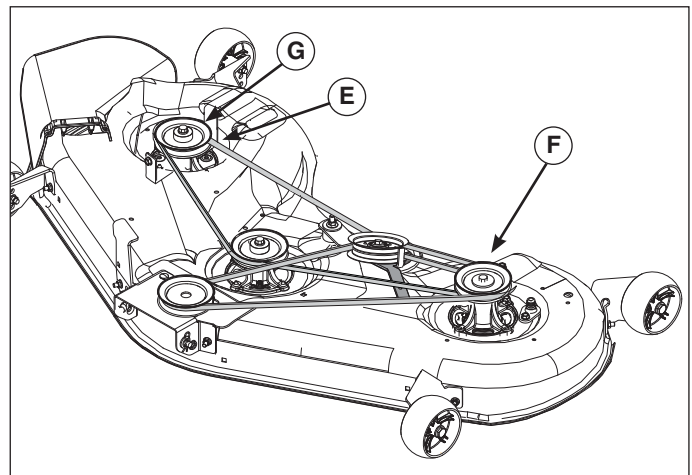

Figure 25
5. Remove the blade belt (E, Figure 25) from left and right blade spindle (F and G).